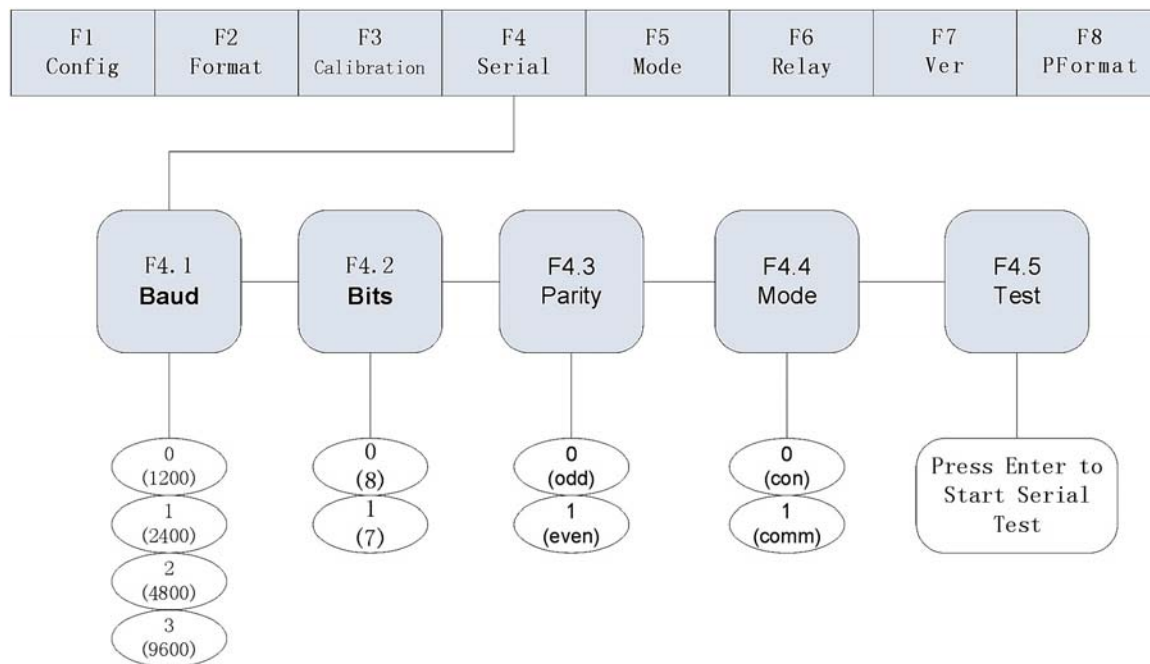
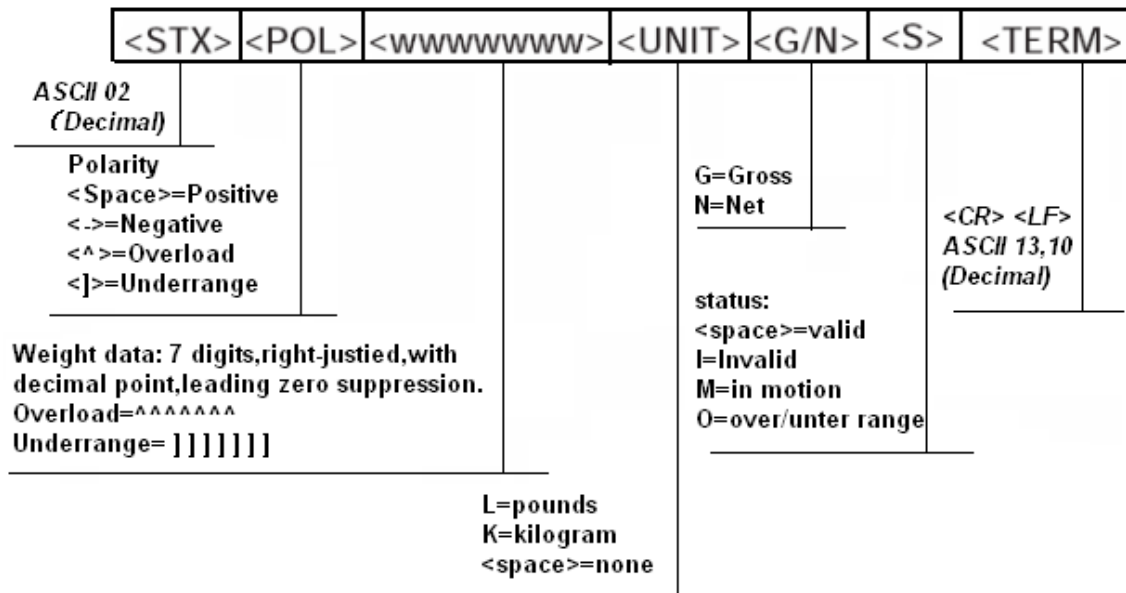

Fig. 8-1 Serial Communication Menu
Fig. 8-2 Format of Continuous Transmission
- (1) Set indicator to Configuration mode. Display shows "F1"
- (2) Press  until display shows "F4" (see Fig. 8-1). Press  to go to F4 Menu. Display shows "F4.1".
- (3) When display shows "F4.1", press  until display shows "F4.4".
- (4) When display shows "F4.4", press  to show serial communication code. Use  to set serial communication code to 0 (data transmitted continuously).
- (5) Turn off the J1 switch to exit from the configuration mode and enter into weighing mode. After selecting continuous transmission mode (F4.4=0), indicator transmits data continuously according to Fig. 8-2.
- (1) Set indicator B to Configuration mode. B display shows "F1".
- (2) Press  until B display shows "F4" (see Fig. 8-1). Press  to go to F4 Menu. B display shows "F4.1".
- (3) When B display shows "F4.1", press  until B display shows "F4.5".
- (4) When B display shows "F4.5", press . B indicator sends command to A indicator, and receives response data from A indicator. There are following possible